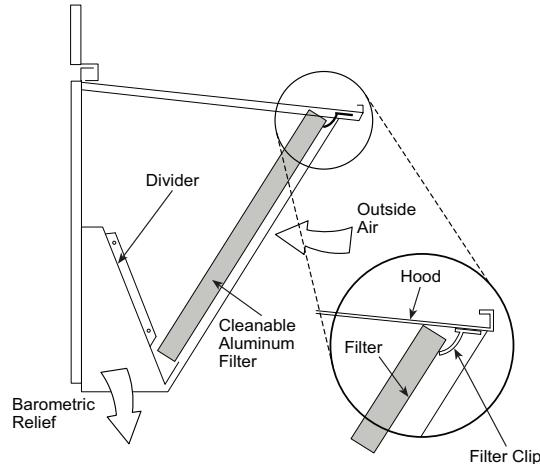

Fig. 14 – Economizer Filter Installation
5. Open the filter clips which are located underneath the hood top. Insert the aluminum filter into the bottom filter rack (hood divider). Push the filter into position past the open filter clips. Close the filter clips to lock the filter into place. See Fig. 14.